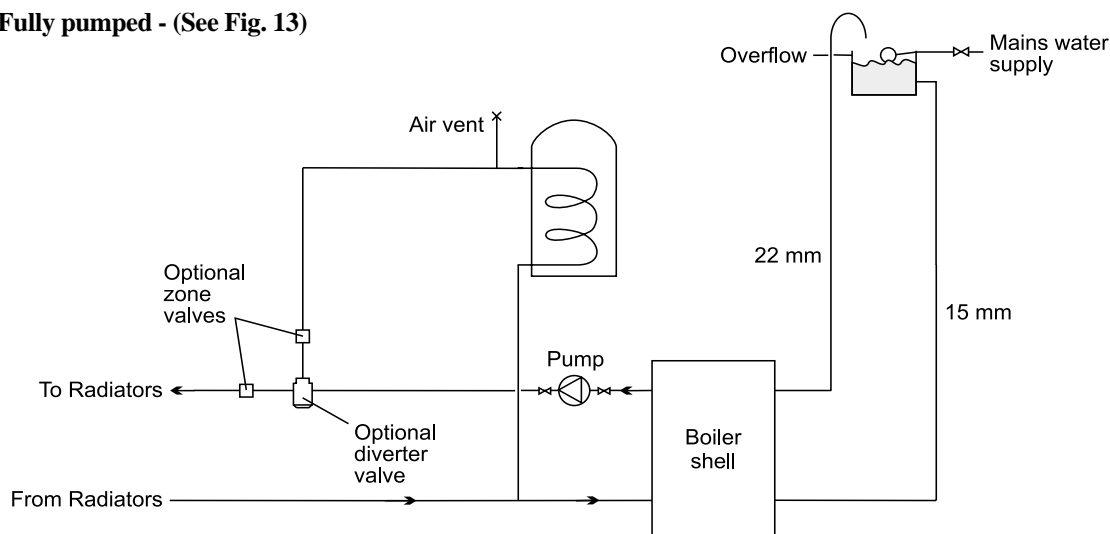

Fig. 13 - Fully pumped system
3.13.2 Fully pumped - (See Fig. 13)